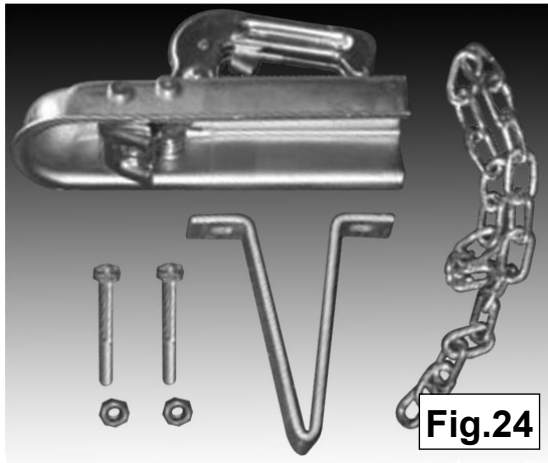
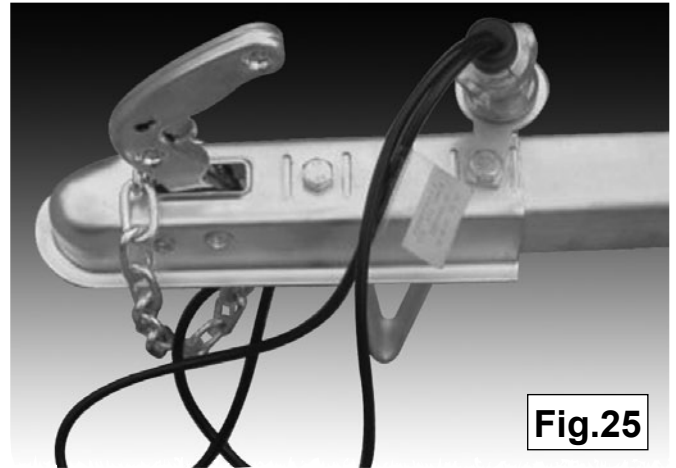

Fig.24
Fig.25
5.16 Fit the coupling head, draw bar foot and safety chain using two M10 x 80 bolts and nylock nuts (See fig.24). Fig.25 shows the components fitted. Before fitting the coupling head the handle should be lifted in order to gain access to the fixing holes. When fitting the bolts through the head, drawbar and foot, ensure that the plug wires are not damaged or crushed when the assembly is tightened. Insert the bolt nearest to the open end of the coupling head first. If the optional lighting ring is required this should be placed onto the bolt before insertion. Position the chain ends in the open end of the drawbar so that when the bolt nearest the handle is inserted it passes through the links. When the bolts are tightened there should be two threads showing through the nut heads.